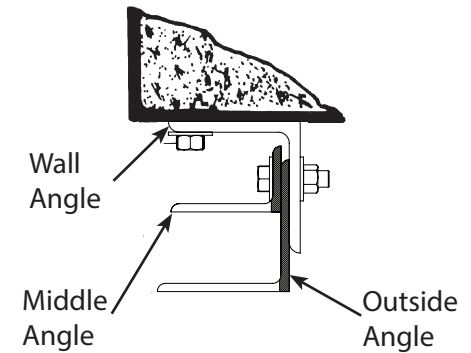

**Figure 2**
- Are the guides you received suitable for the jambs? Compare the guide type shown on the "DATA SHEET" with Figure 2.